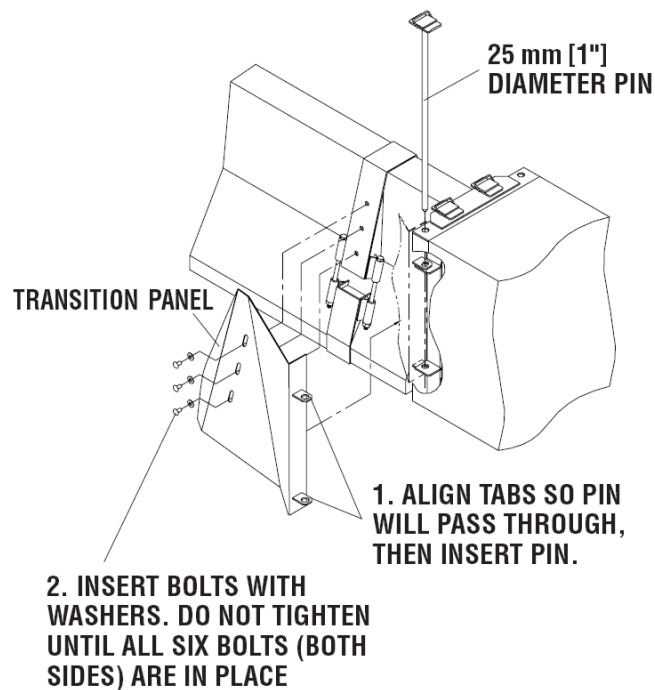

Figure 8
Step 6: Transition Panel Assembly (See Figure 8)